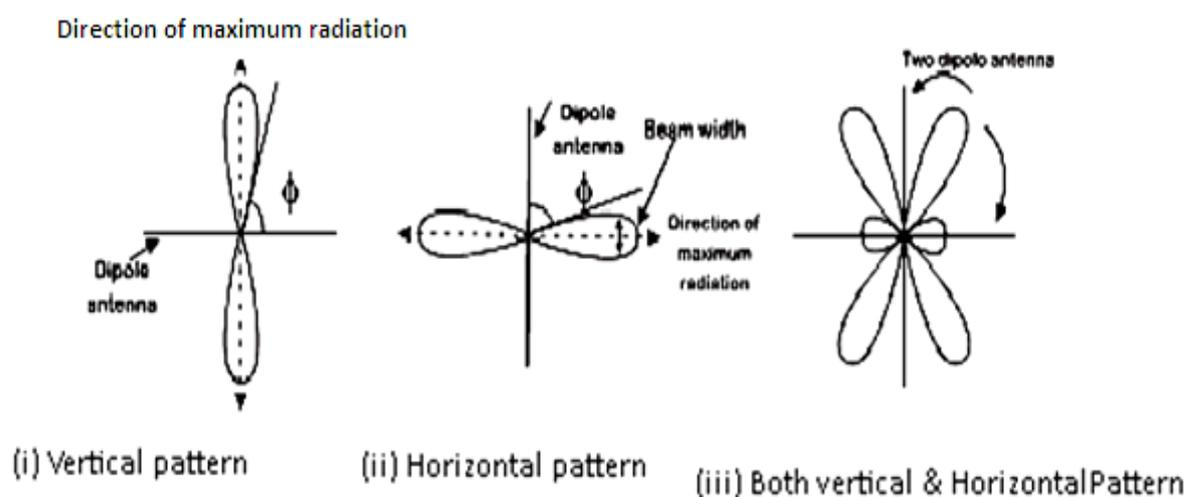

Fig.1.34 Radiation pattern
- ❖ These respectively called the horizontal patterns and vertical patterns which are shown in Fig 1.34.
From the radiation pattern of an elementary dipole shown in Fig 1.34, we see that very little directivity is achieved. Maximum radiation takes place at right angles to the axis.